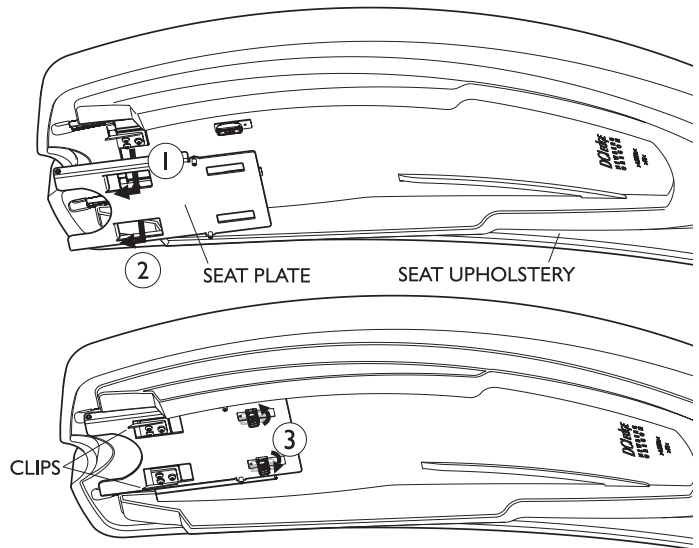

Figure 11. Assembling the seat upholstery to the chair
- 1** Center and place the seat upholstery on the seat plate so that the clips on the bottom of the seat upholstery drop into the slots of the Seat Plate (Figure 11, item 1).
- 2** Engage the clips by pushing the seat upholstery toward the backrest (Figure 11, item 2).
- 3** Once the clips are engaged, turn the two rotating catches 90 degrees to lock the seat in position (Figure 11, item 3).